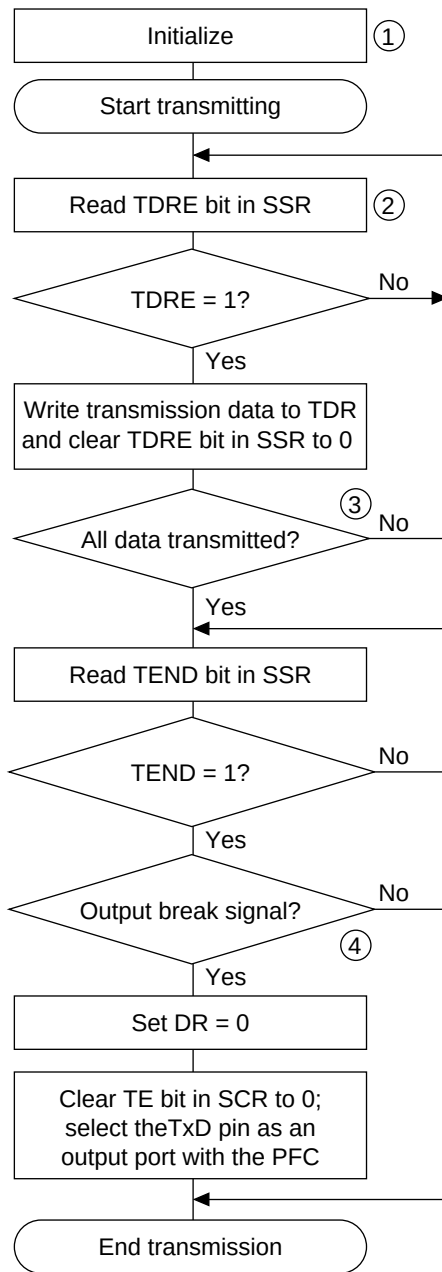

**Figure 14.5 Sample Flowchart for Transmitting Serial Data**
**Transmitting Serial Data (Asynchronous Mode):** Figure 14.5 shows a sample flowchart for transmitting serial data. The procedure is as follows (the steps correspond to the numbers in the flowchart):
4. To output a break at the end of serial transmission, first clear the port data register (DR) to 0, then clear the TE to 0 in SCR and use the PFC to establish the TxD pin as an output port.